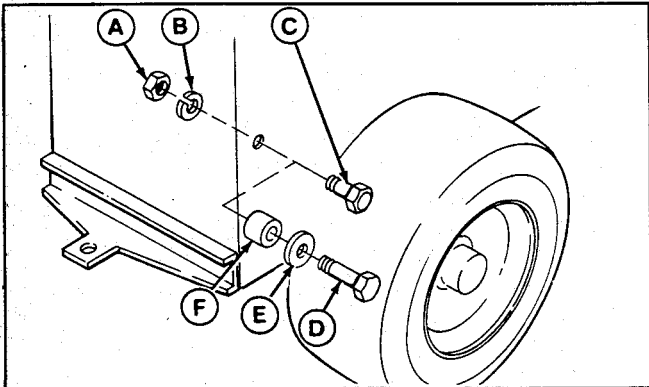

Figure 28.
1. On each side of tractor, remove existing capscrew, lockwasher and nut (figure 28). (On hydrostatic models, disconnect brake spring on left side). Install the spacer (F) as shown using existing lockwasher and nut, and new plain washer and capscrew.